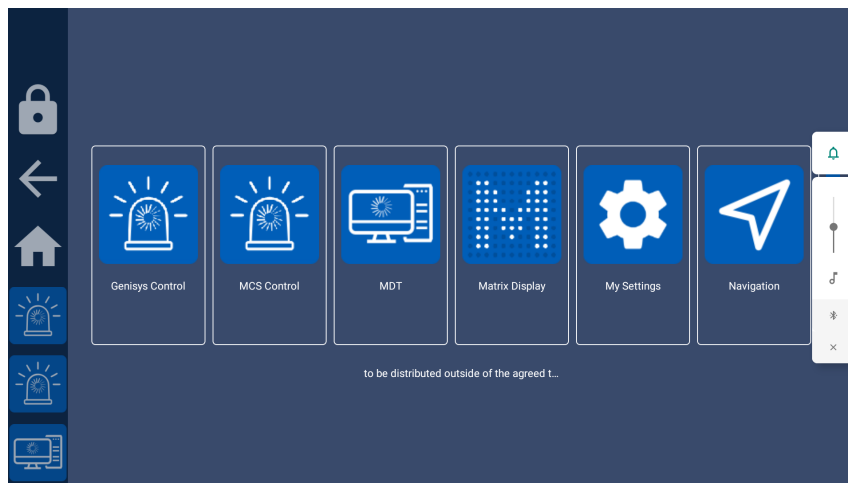

Figure 23: The volume control bar
- Open it from the volume control bar by clicking the Bluetooth icon in the volume control bar (see Figure 23). The volume control bar is shown when the volume is changed on the Bluetooth media device.